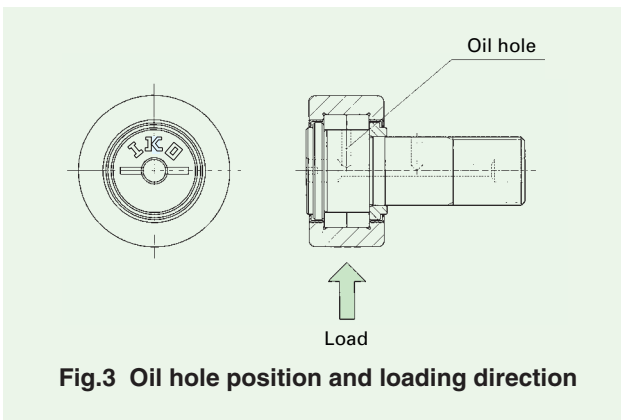

Fig.3 Oil hole position and loading direction
- 2 The  mark on the flange head of stud indicates the position of oil hole on the raceway. Avoid locating the oil hole within the loading zone. It may lead to short bearing life. (Refer to Fig.3.) The hole located in the middle part of the stud perpendicular to the stud center axis is used for greasing or locking the stud rotation.